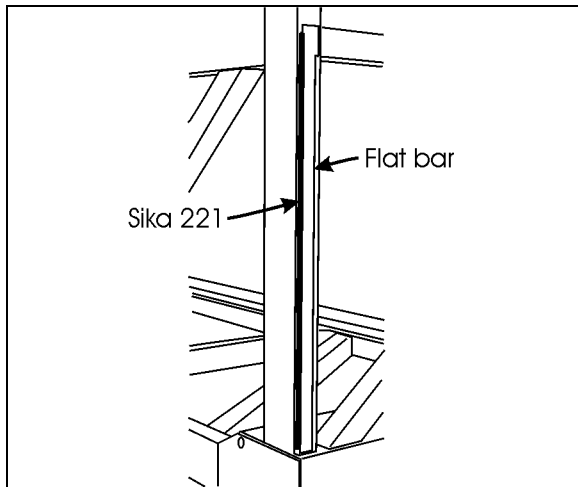

FIGURE 43 : SIDE PANEL INSTALLATION – SIKa 221 APPLICATION ON STRUCTURE
4. Inspect the Sika bead at the intersection of the corner vertical member and the flat bar as shown in FIGURE 43. If it is damaged, remove adhesive residue and apply a new 3mm diameter bead of Sika 221;